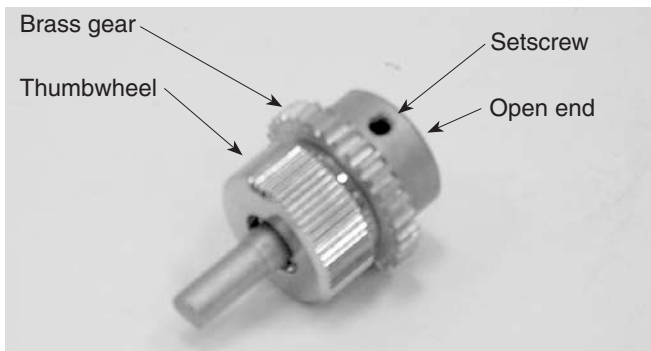

Figure 4. The manual clutch assembly.
- Slide the open end of the manual clutch assembly (Figure 4) onto the wormgear shaft. Rotate the manual clutch assembly so that the setscrew will press against the flat on the R.A. worm gear shaft. Secure the manual clutch assembly by tightening the setscrew with a 2mm Allen wrench.